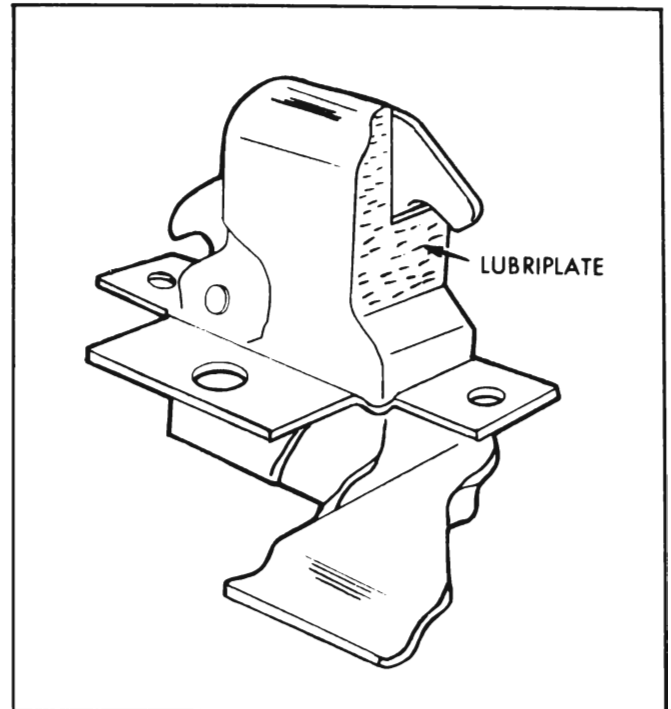

Figure 1-13—Hood Latch Lubrication
1. Hood Latch and Hinges. Apply Lubriplate to hood latch as shown in Figure 1-13. Apply engine oil to hood hinge pins.